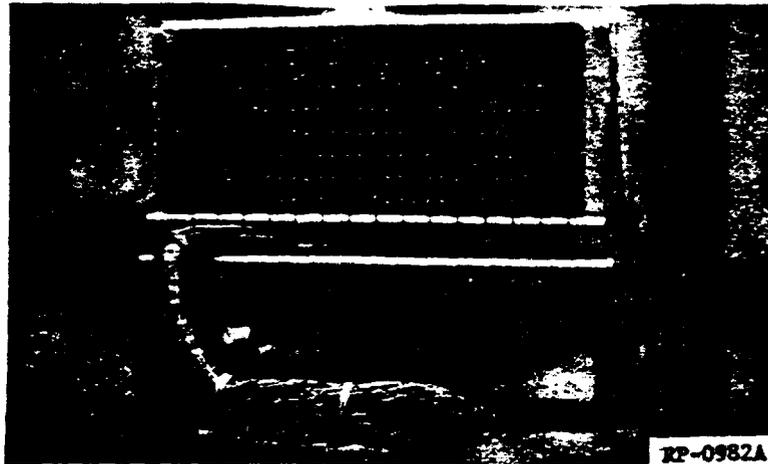

FIG. 8 CABLE FORM FOR TYPE II BLOCK
6.21 Take up all the excess slack below the taped area and form it into a tight "U" shaped form (see Figure 8), and the two bands of twine or nylon cable ties around the form to retain this shape.